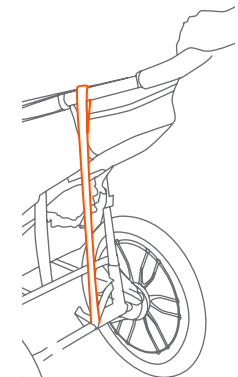

Fig. 19c
- The safety strap must remain connected to the rear lower frame cross member at all times. This location is intended to prevent the stroller being tipped backward in the event that you do fall to the ground. The safety strap includes a hook and loop attachment for storage, on the left side of the stroller, when not in use (Fig. 19c).